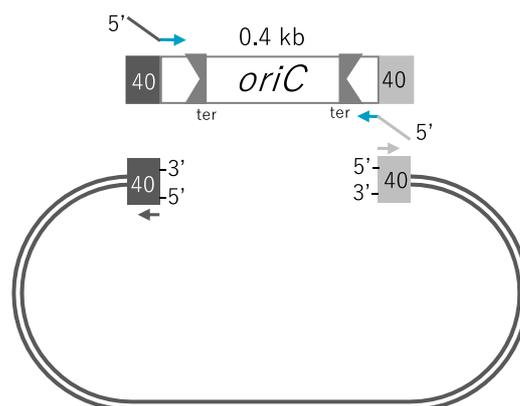

Figure 6. Design of oriC
b. Design and preparation of your oriC Cassette (Figure 6)